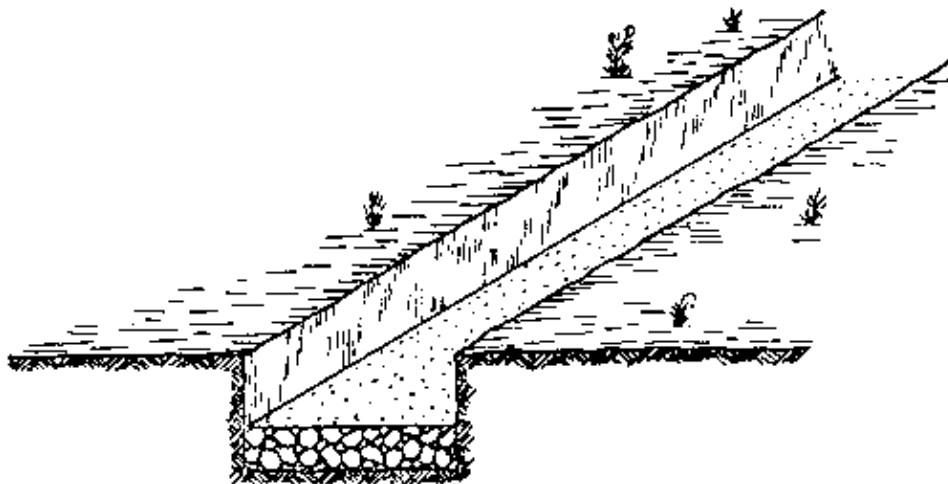

Fig. 2
- STRIP FOUNDATION: This is the most widely used foundation for walls (Fig. 2).